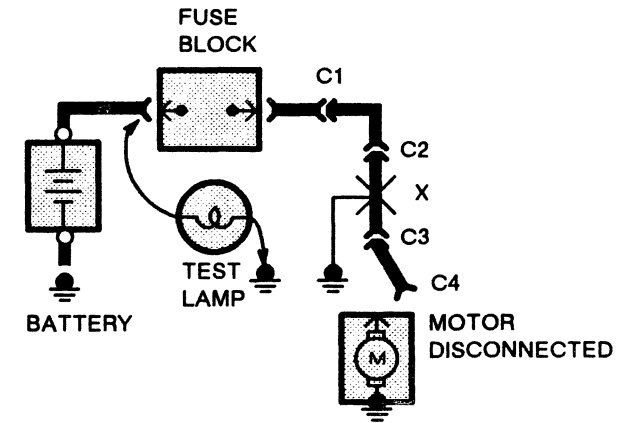

Figure 5—Short Check
A fuse that repeatedly blows is usually caused by a short to ground. It's important to be able to locate such a short quickly (Figure 5).
- Motors: disconnect motor connector (Connector C4 in Figure 5).
5. Disconnect the test lamp lead that is connected to ground, and reconnect it to the load side of the fuse at the connector of the disconnected component. (In Figure 5, connect the test lamp lead to connector C4.)
- If the Test Lamp goes on, the short is in the wiring. You must find the short by disconnecting the circuit connectors, one at a time, until the Test Lamp goes out. For example, in figure 5 with a ground at X, the bulb stays on when C1 or C2 is disconnected, but goes out after disconnecting C3. This means the short is between C2 and C3.